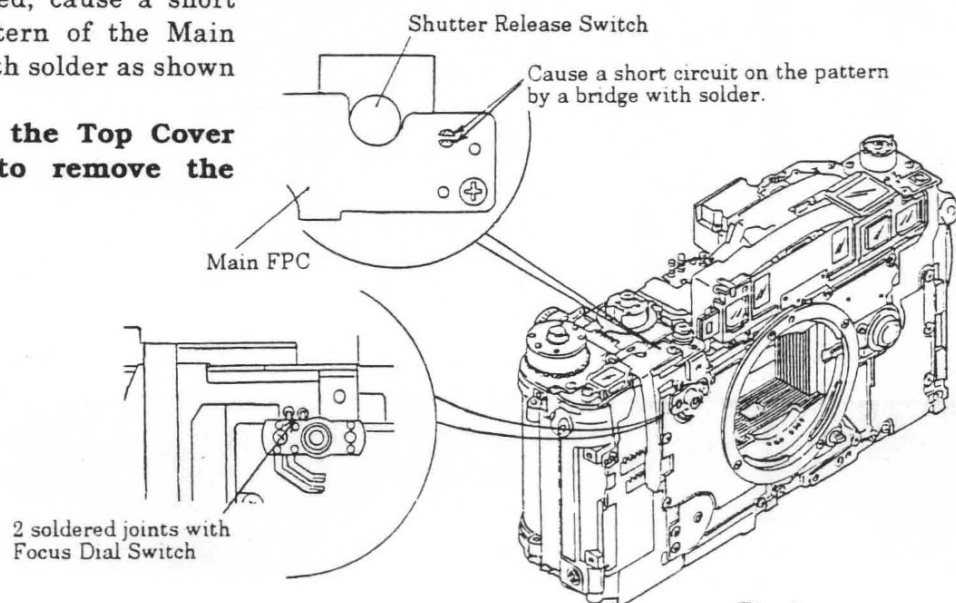

Fig 2
- 2) Unsolder the 2 soldered joints between the Main FPC and the Focus Dial Switch. (See Fig. 2)
- a) To operate the camera with the Top Cover Ass'y removed, cause a short circuit on the pattern of the Main FPC by a bridge with solder as shown in Fig. 2.